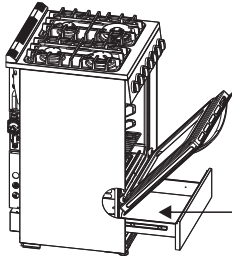

Fig.1
1. Fully open the oven door (Fig. 1).